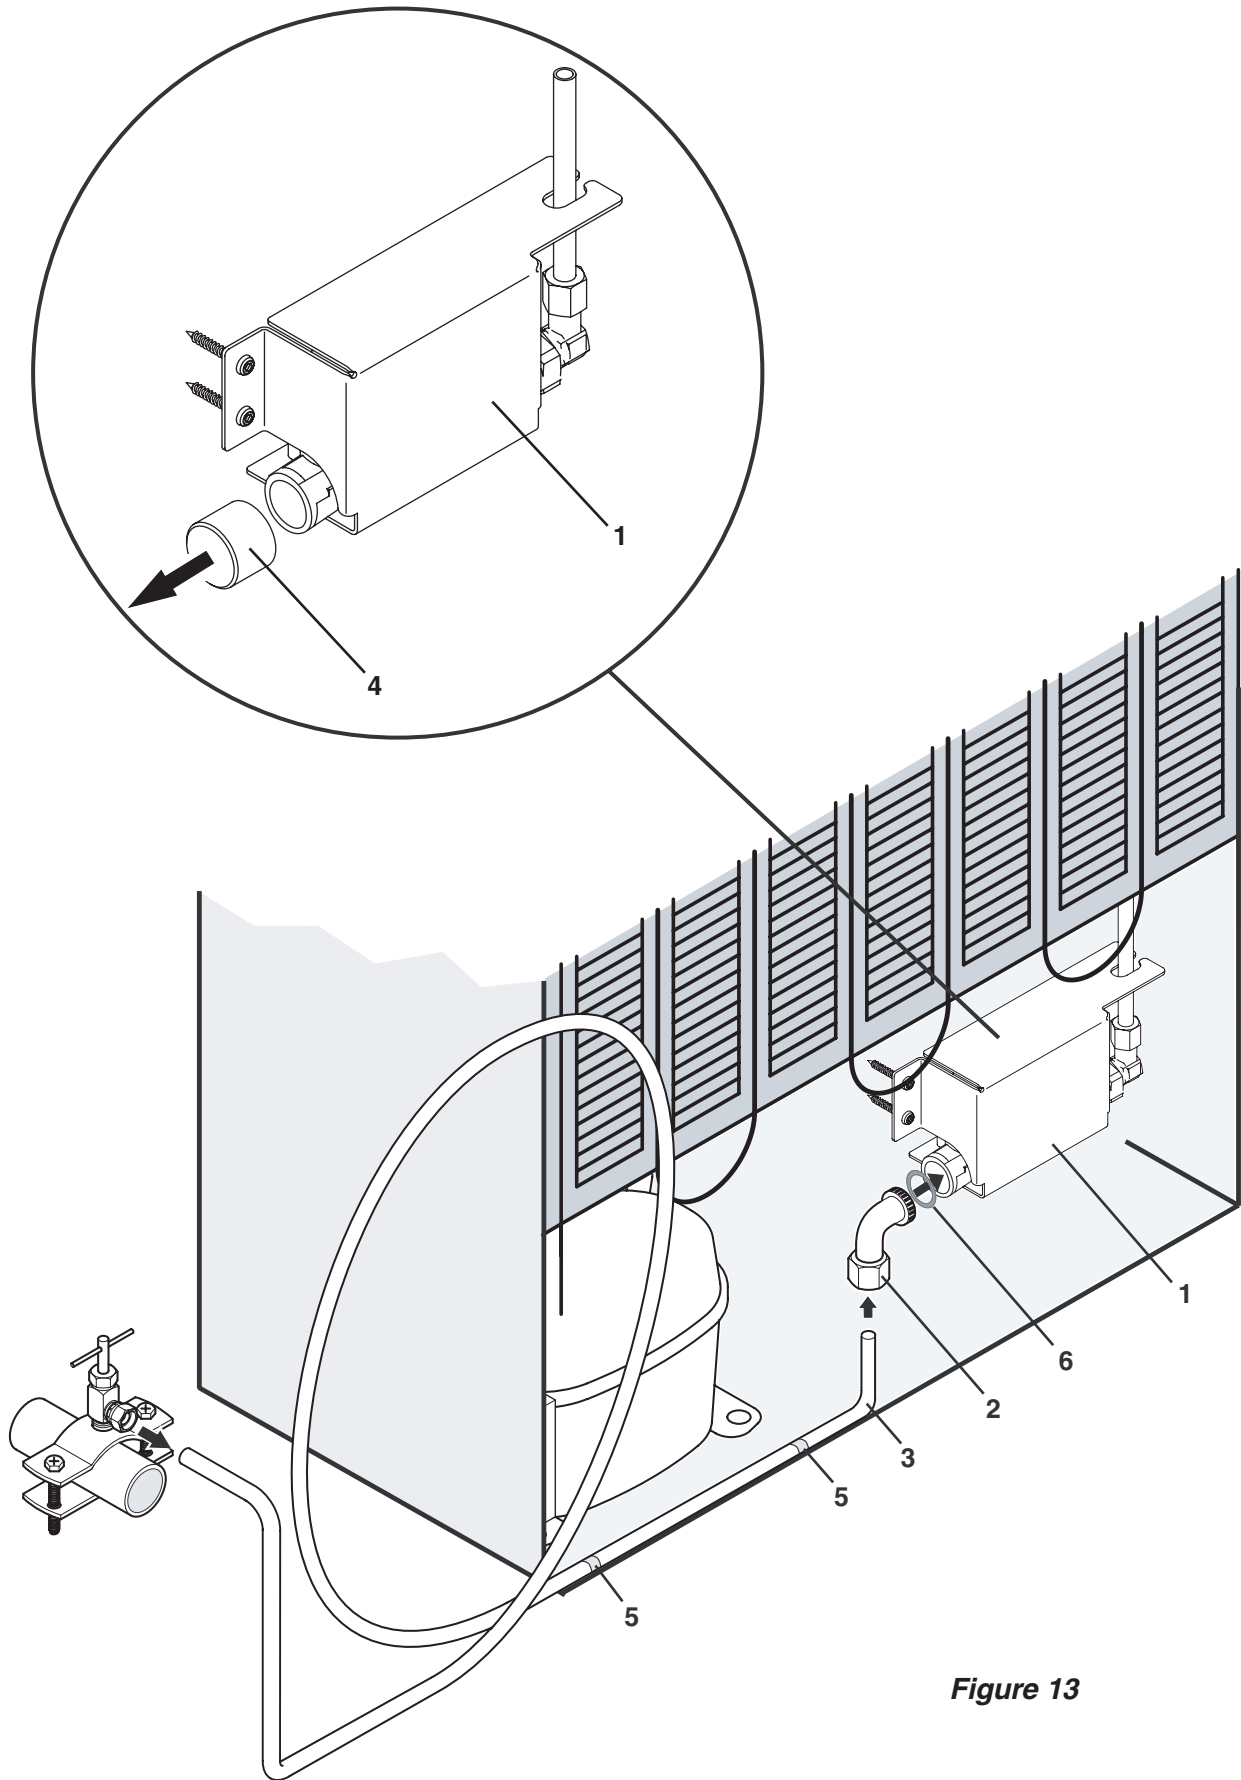

Figure 13
2. The 1/4 in. copper tubing between the shut-off valve and solenoid valve has a 3/4 in. male connector (**Fig. 13, 2**). Make sure there is approximately 30 in. (70 cm) of excess tubing behind the refrigerator-freezer for easy connection.
3. Remove the cover cap (**Fig. 13, 4**) from the solenoid valve (**Fig. 13, 1**). Install the brass adapter (**Fig. 13, 2**) with sealing ring (**Fig. 13, 6**) on the solenoid valve (**Fig. 13, 1**). Attach the copper tube to the brass adapter (**Fig. 13, 2**). Secure the copper tube (**Fig. 13, 3**) to the appliance using the cable clip (**Fig. 13, 5**).